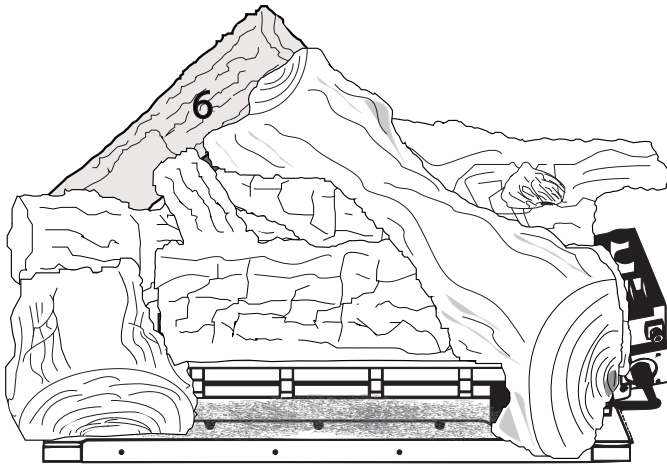

Figure 6.25 - Log #6 Placement
- Place Log #6 by lining up the locating pins that are on Log #1 and Log #2 with the slots on the bottom of Log #6. When in place, Log #6 will be leaning on Log #5. See Figure 6.25.